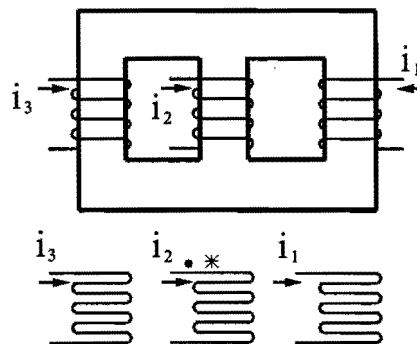

Fig. Q2-1
Q2, 10 pts: There are 3 coils in a magnetic circuit, N_1 , N_2 , and N_3 carrying respectively a current I_1 , I_2 , and I_3 . The polarities among the coils are shown in Fig. Q2-1 by the reference of the core and winding direction. Find:
- (i). At the bottom of Fig. Q2-1, there is no reference of winding direction and hence a "dot" convention is adopted to show coupling direction. On Fig. Q2-1, mark the proper terminals of coil 2 and 1 with a 'dot'; of coil 2 and 3 with a 'star' to carry the direction information from the top to the bottom figure.